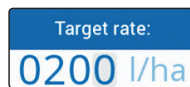

Fig. 243
- Set the spray rate value for the treatment (Fig. 243). Press **OK** to confirm the value.